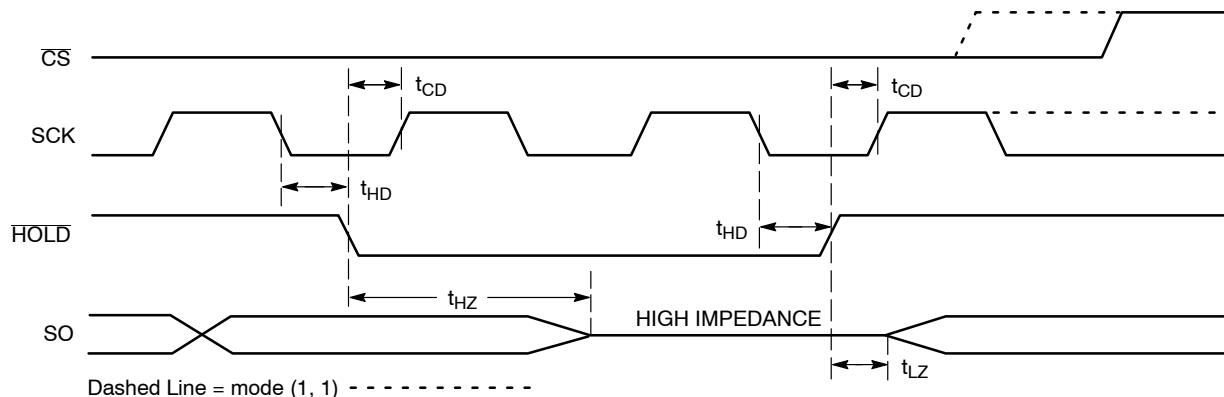

Figure 10. HOLD Timing
The HOLD input can be used to pause communication between host and NV25xxx. To pause, HOLD must be taken low while SCK is low (Figure 10). During the hold condition the device must remain selected (CS low). During the pause, the data output pin (SO) is tri-stated (high impedance) and SI transitions are ignored. To resume communication, HOLD must be taken high while SCK is low.